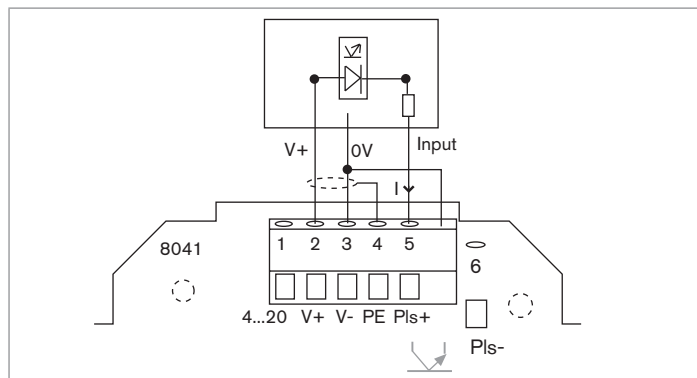

Fig. 19 : Frequency output connection to a programmable controller in NPN mode
- to a programmable controller in PNP mode or NPN mode (see Fig. 19) ;